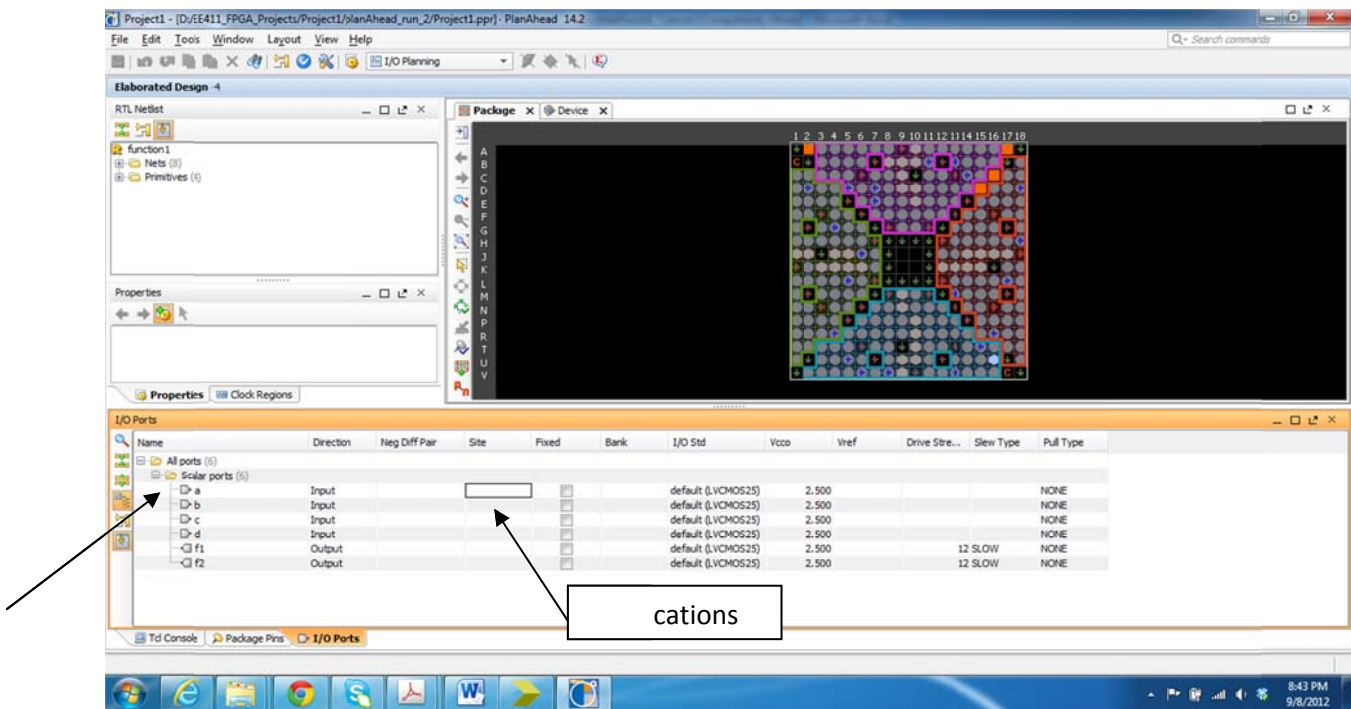

Figure 9B
10. The **Plan Ahead tool** for pin assignment and routing on the FPGA opens up. It looks like in Figure 9B.